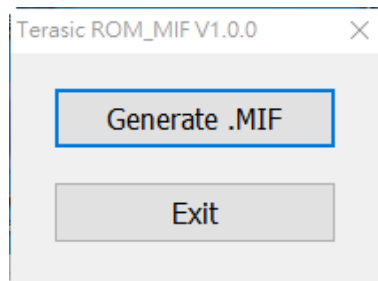

Figure 2-16 Teraisc ROM_MIF utility
7. Launch Teraisc ROM_MIF utility as shown in **Figure 2-16**. Click “Generate .MIF” button and select **Si5391B-Registers.txt** file generated in previous step, then **Si5391B-Registers.mif** is generated.